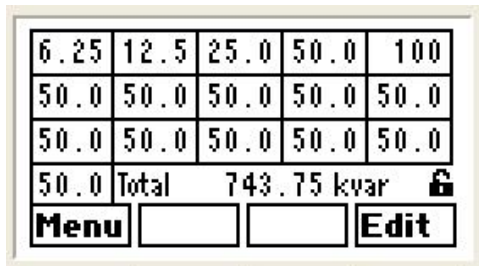

Fig.23.- Programming capacitor power
- Select the option **C Power kvar** and press **OK**. The screen shown on Fig. 23 will be displayed.